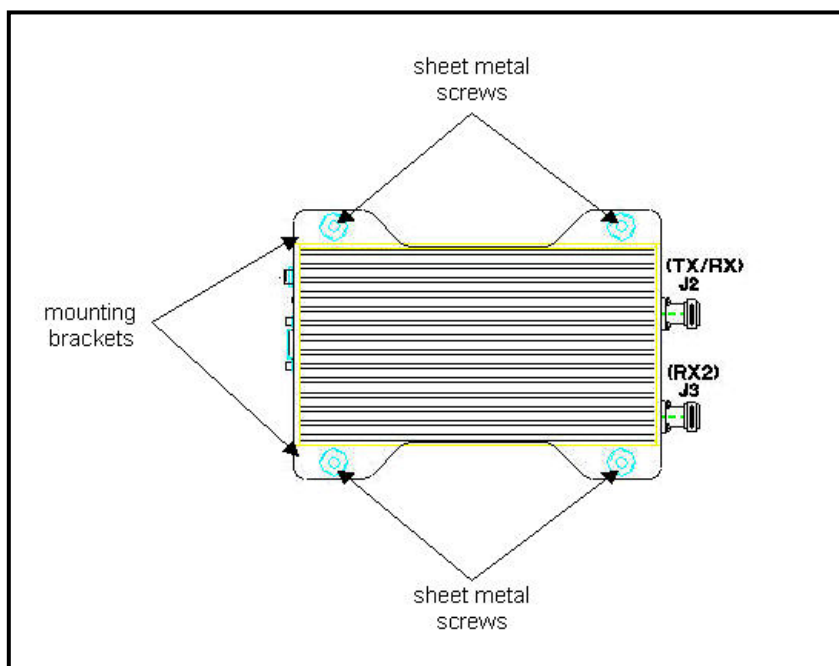

Figure 10: Mobile Radio Mounting
- Step 1** As shown in Figure 10, secure the mobile radio into the trunk compartment. Insert four (4) sheet metal screws in the mobile radio brackets.